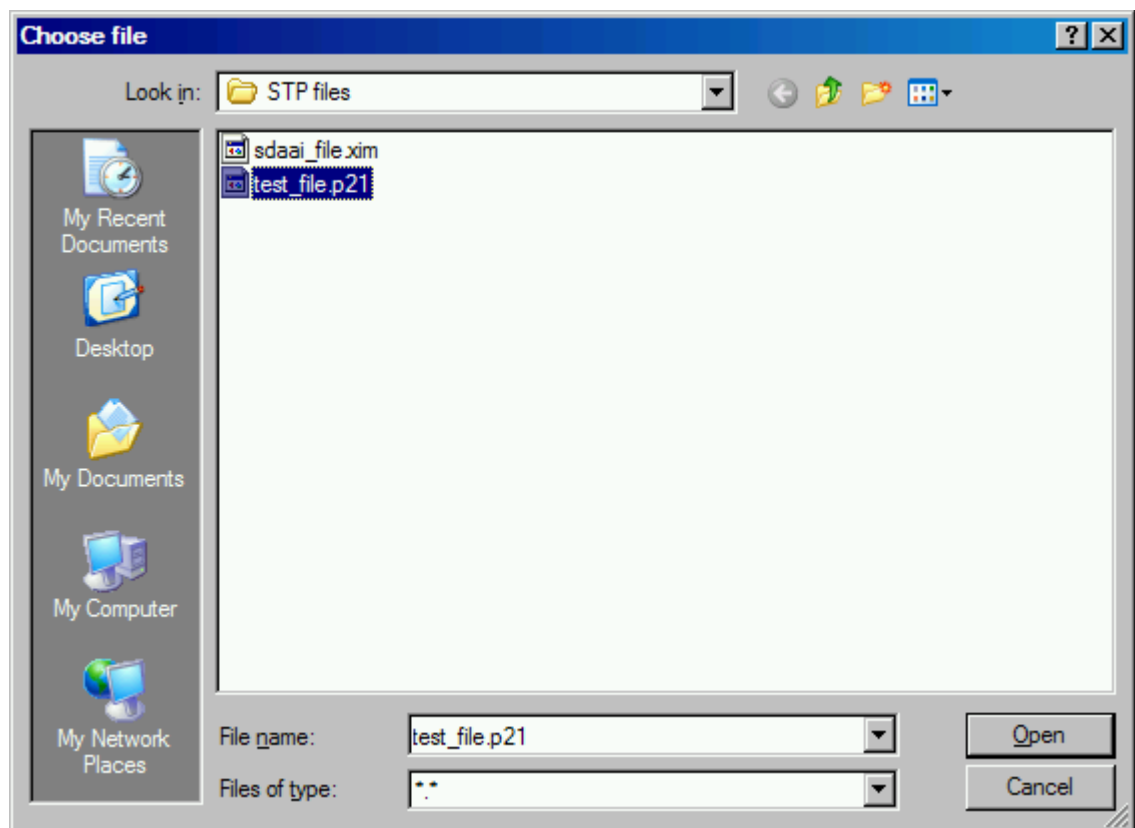

Figure 2. Choose file dialog window to select a file to be added
- Select a file to be added in the folder system by using **Choose file** dialog window (see Figure 2).